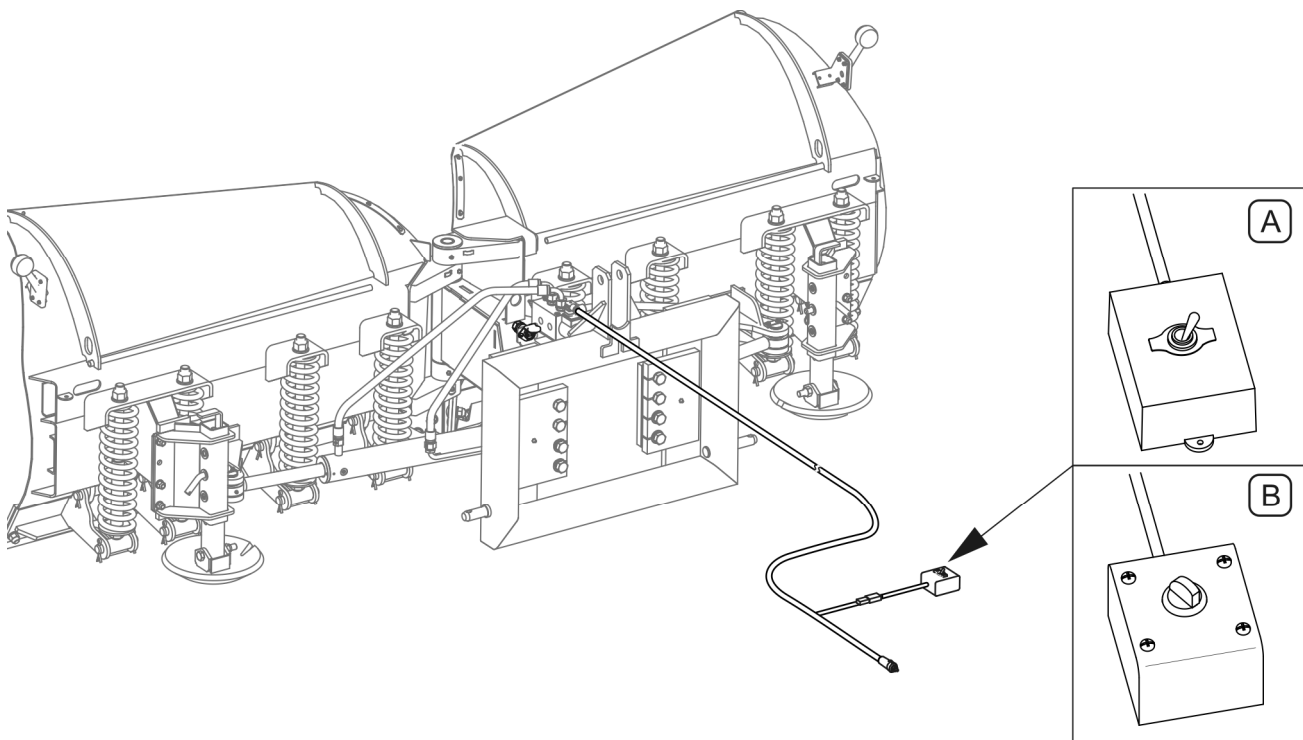

FIGURE 4.6 Control switch of the snow plough working position
Depending on type of control system (FIGURE 4.6) (independent or independent-simultaneous control), the snow plough can be equipped with 2-position switch (A) or 3-position switch (B).